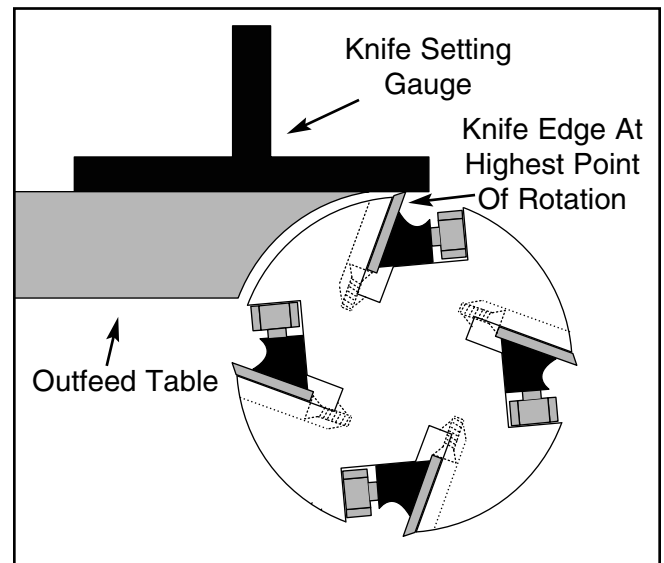

Figure 16. Checking knife height with the knife setting gauge.
3. Position the knife setting gauge on the outfeed table so that it extends over the cutterhead (**Figure 16**).